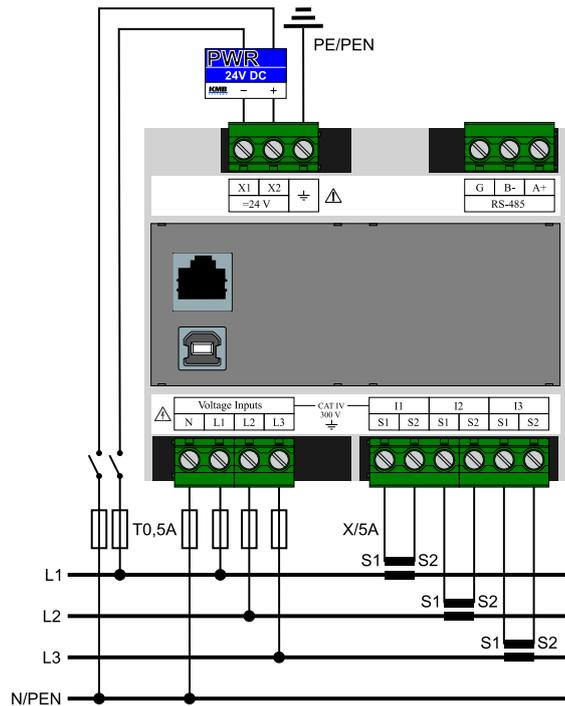

Figure 5: An example of a typical connection of SMC 233 in a LV network - wiring a measured voltage to a star in a four-wire network.
**Option „X/5A“** The secondary CT winding of nominal 5 A or 1 A must be fed to the terminals S1 and S2 of the current inputs I1, I2 and I3. Figure 5 illustrates the correct connection with the CTs in the LV network.
- For direct measurement (see eg Fig. 5 set the multiplier value to 1 — default value.